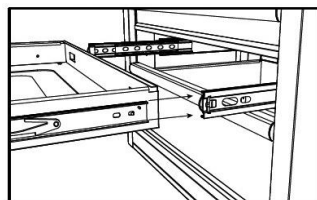

Fig. 4
2. Hold the slide on the drawer while aligning it with the slide on the chest (Fig. 4).